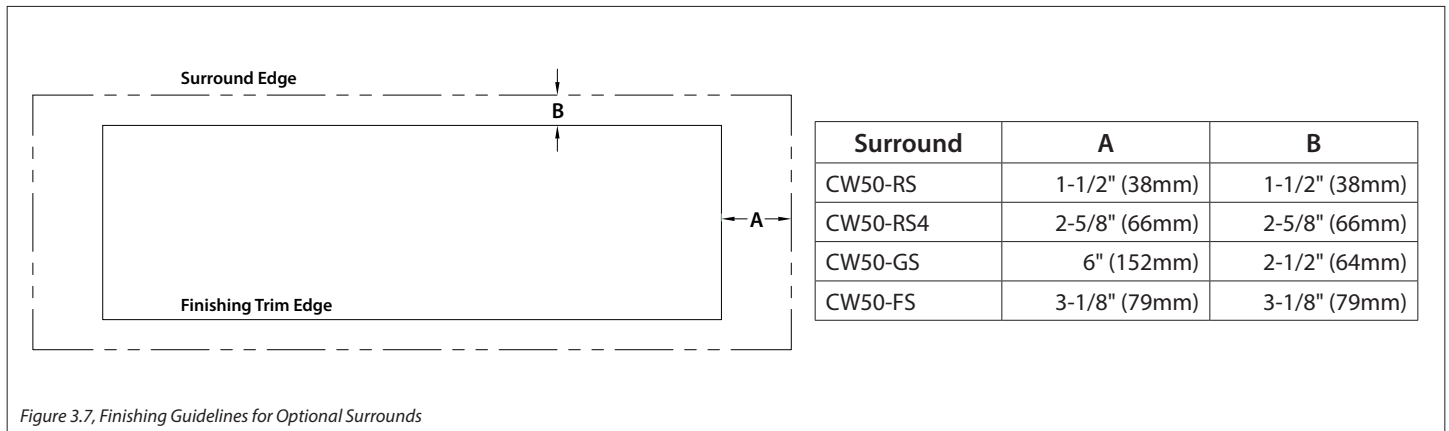

Figure 3.7, Finishing Guidelines for Optional Surrounds
- Figure 3.7 shows where to end finishing materials, when measuring from the finishing edge, to allow installation of any optional surround. Most finishing material will not fit behind the optional surround(s) when it is installed.